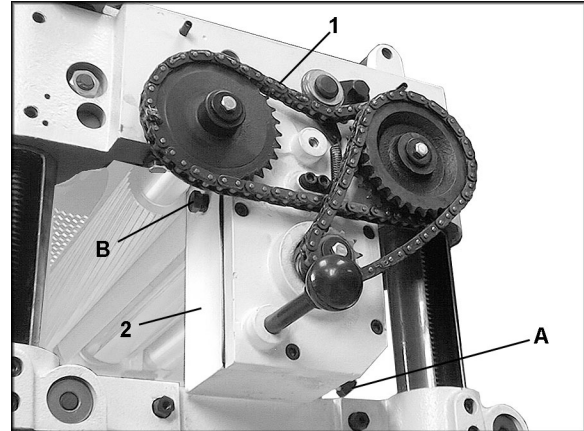

Figure 32
1. Remove the drain plug (A, Figure 32) with a 14mm wrench. Drain dirty oil thoroughly.
2. Insert and tighten the drain plug. (A, Figure 32).
3. Remove filler plug (B, Figure 32) and fill with clean lubricant through the hole. Fill until the oil reaches the top of the filler plug port for correct oil level.
4. Install and tighten filler plug (B, Figure 32).